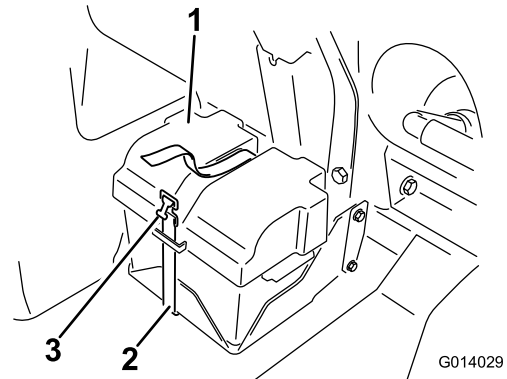

Figure 47
3. install the battery cover and secure it with the strap removed previously (Figure 47).